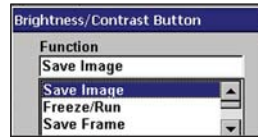

Figure 5-23 Sample Brightness/Contrast dialog box
The Brightness/Contrast dialog box displays (Figure 5-23).
1. Select **Utilities > Easy Scroll** (Figure 5-23).